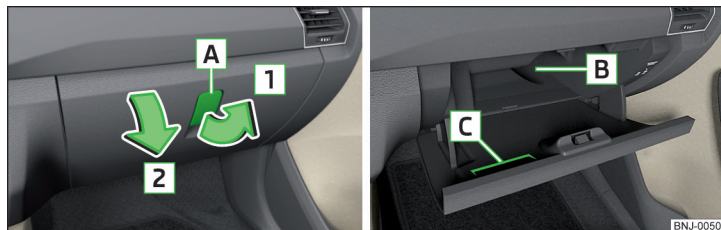

Fig. 76 Open storage compartment / interior of the storage compartment
Storage compartment » Fig. 76
- Pull the handle to position » Fig. 76 in the direction of the arrow.
- Screw in the filler cap in the opposite direction of the arrow » Fig. 76 until it audibly clicks into place.